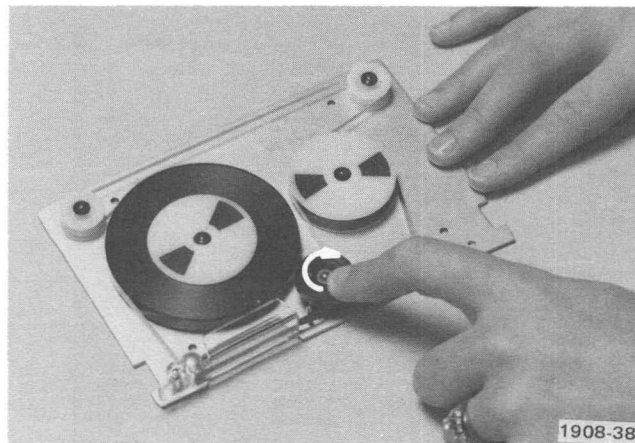

Fig. 3-14. Winding the tape.
5. Hold the loose end of the tape against the spool, and continue to rotate until the loose end passes under the continuing length of tape, then continue to rotate for a few more turns by turning the drive roller, until all the beginning of tape (or end of tape) holes have passed the mirror. Make certain that these first windings stay evenly within the spool edges (Fig. 3-14).